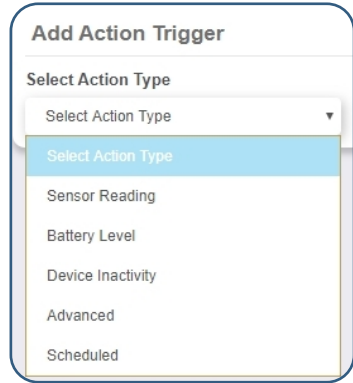

Figure 12
- The drop-down menu will have the following options for Action Types: (See Figure 12)